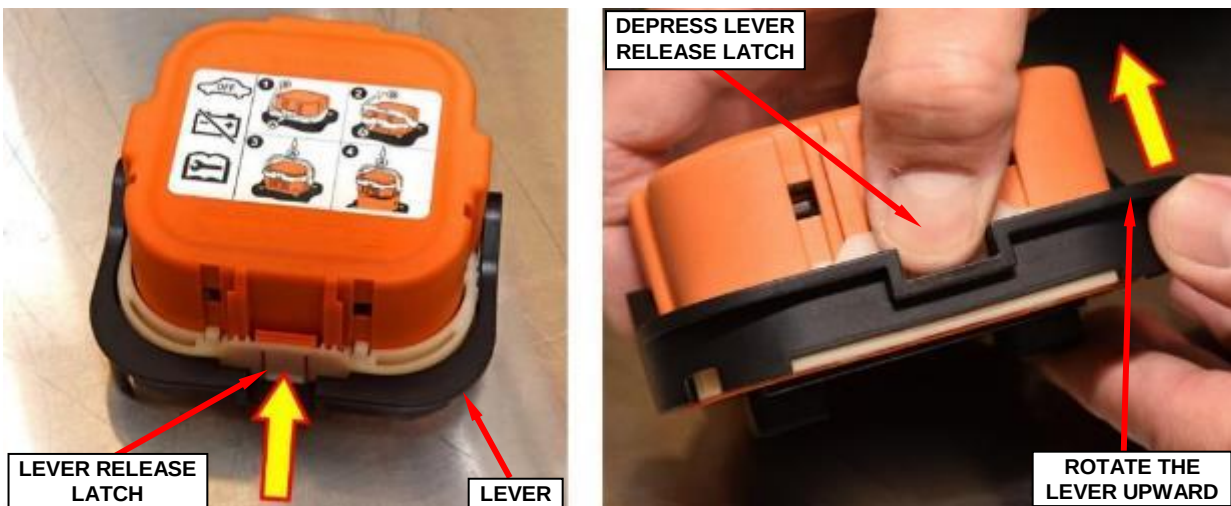

Figure 10 – High-Voltage Manual Service Disconnect First Stage Latch Release
17. Depress the lever release latch firmly. With the latch fully depressed, rotate the lever upward. The lever will stop at the 45° position (Figure 10).